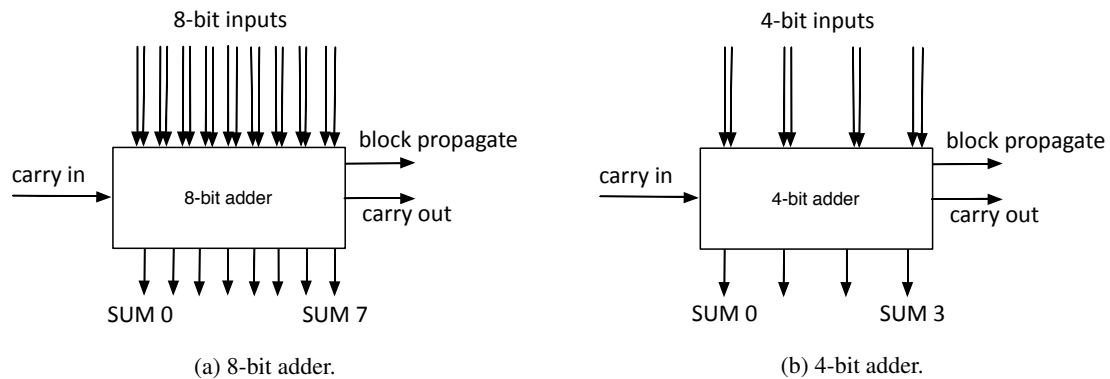

Figure 4: Two adders. In (a) is an 8-bit adder and in (b) a 4-bit adder.
You have designed an 8-bit adder circuit with eight SUM outputs, one carry output and one block-propagate output, as shown in Figure 4 (a). The propagation delays expressed in unit delays are shown in Table 3. You have now been asked to design a 32-bit adder with as short a propagation delay as possible. Available to you are AO, OA, AND and OR gates which each have a delay of 1 unit delay.
- What if you also had designed a similar 4-bit adder, as shown in Figure 4 (b), with propagation delays given in the last column of are shown in Table 3. Would it be better to use the 4-bit adder rather than the 8-bit adder in your 32-bit adder? Motivate by drawing a diagram and calculating the delay. (2 p)